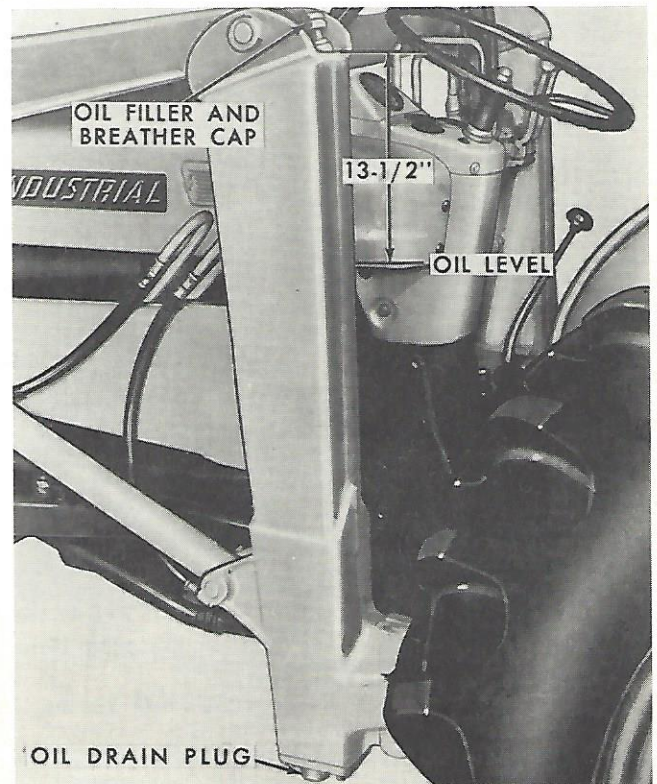

Figure 21
1. Remove the reservoir filler and breather cap, Figure 21.
2. Fill the reservoir with hydraulic oil until the oil level is 13-1/2 inches from the top of the filler opening. See Figure 21.